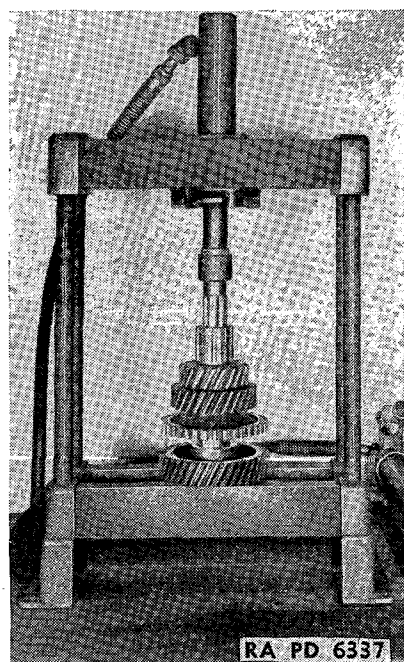

FIGURE 146.—Pressing on transmission countershaft drive gear.
(3) Replace drive gear—brass drift, hammer, press. Replace Woodruff key. Set up in press and press gear on shaft (fig. 146).